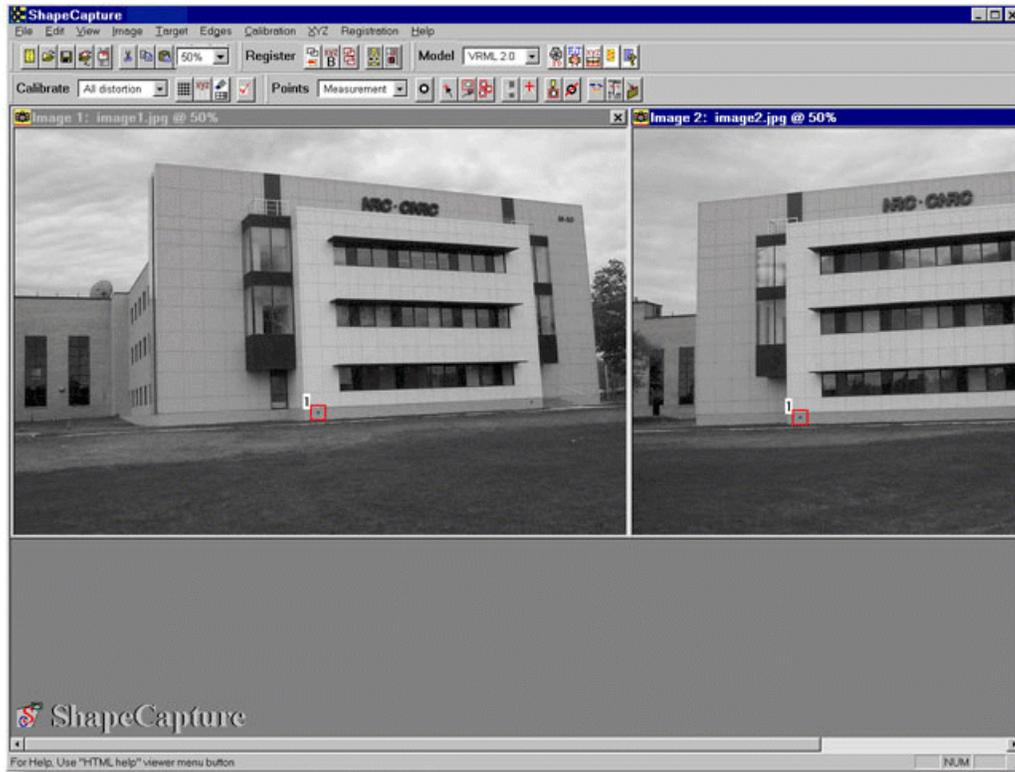

Figure 4. ShapeCapture Screen Capture.
Another photogrammetry software, ShapeCapture [<http://www.shapequest.com>], is also used in accident and forensic applications. The screen capture shown in Figure 4 provides an example of how a point (in this case, a point on the base of an office building) can be located in two different photos. Mr. Gary Robertson (22), owner of a ShapeCapture service company called GRAI Imaging, supplied a demonstration version of the software (23). The main functions the ShapeCapture software performs are: